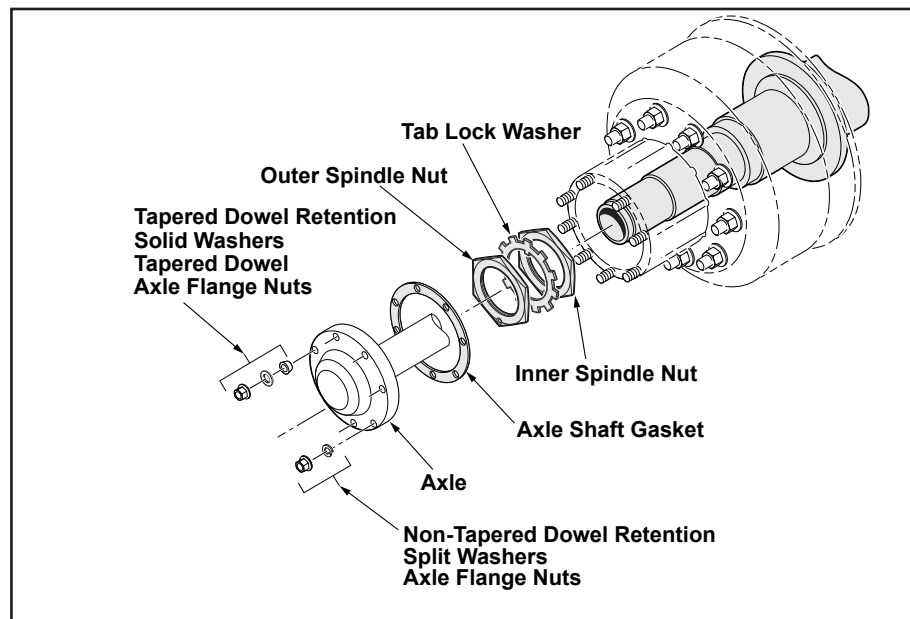

Figure 1
4. Remove the axle flange nuts, washers and axle and set aside for reinstallation (see Figure 1).
5. Remove the axle shaft gasket and discard (see Figure 1).
2. Install a new axle shaft gasket (obtained locally) (*see Figure 1*).
3. Reinstall the axle and secure with the axle flange nuts and washers that were set aside in Step 1 (*see Figure 1*).